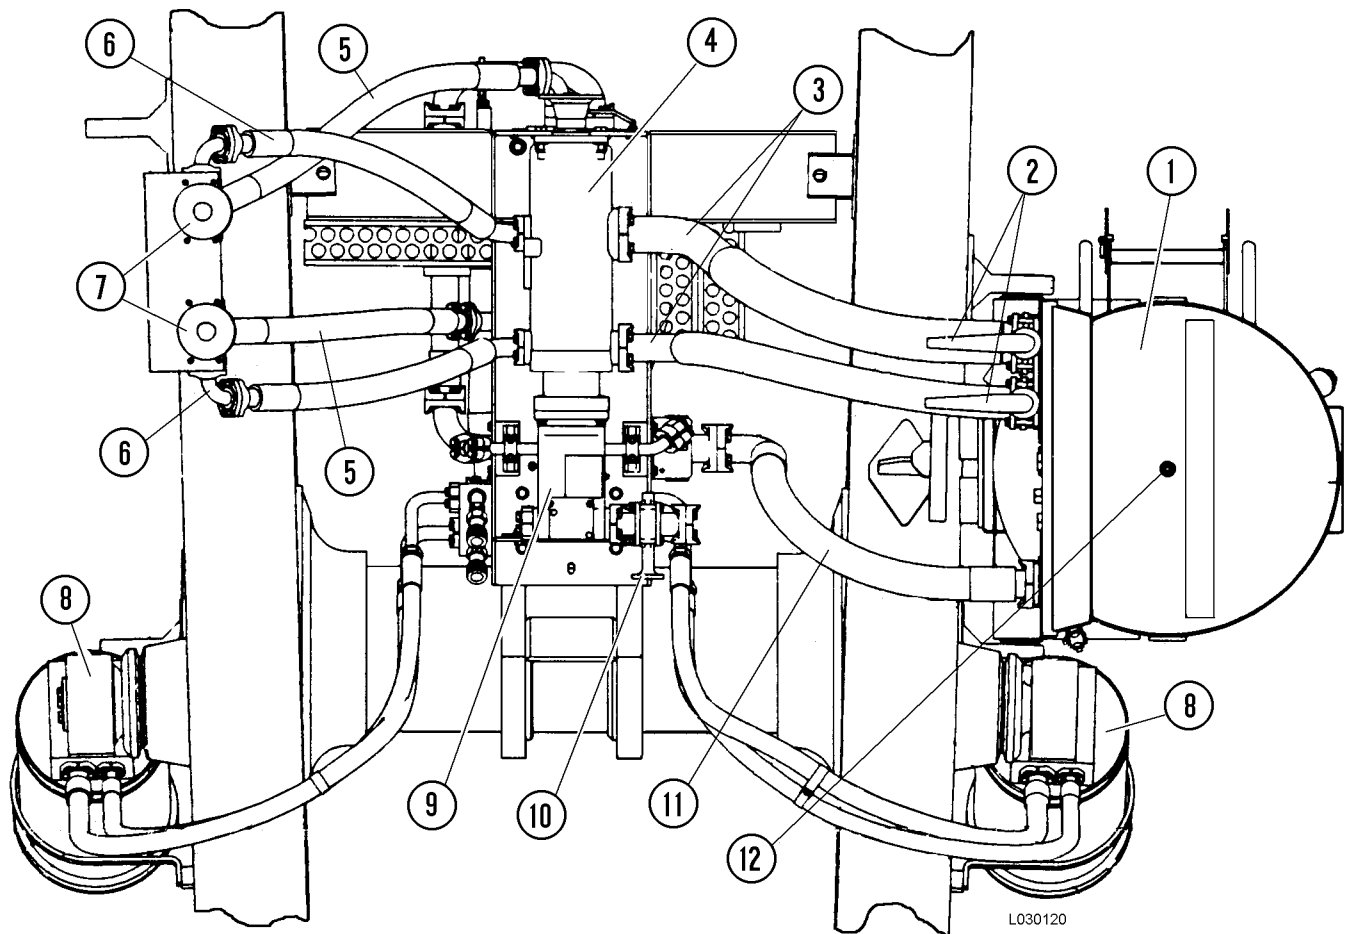

FIGURE 3-1. HOIST PUMP PIPING (BOTTOM VIEW)
2. Drain the hydraulic tank by use of the drain valve (12, Figure 3-1) located on the bottom of the tank.
NOTE: If oil in the hydraulic tank has not been contaminated, the shut-off valves can be closed and both pump inlet lines can be drained, eliminating the need to completely drain the tank. Refer to Figure 3-1.